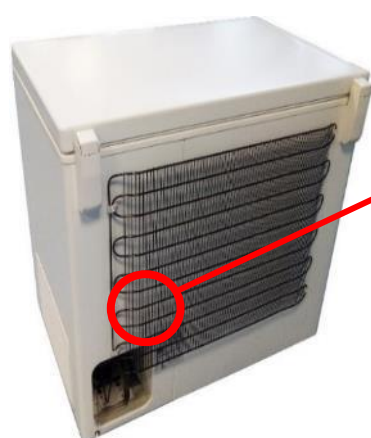

Fig.3 - Location of the characteristics.
- The equipment must be placed in areas with proper air circulation, keeping in mind the distance between the equipment's back and the wall, to allow the necessary ventilation (Fig. 3).